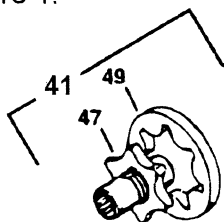

Figure 1
1. Clamp the end of the drive shaft in a protected jaw vise with the body of the pump up and remove the four capscrews (34) from the pump assembly.
2. Use a plastic mallet and tap the adapter assembly (43) to loosen it, then pull the adapter straight up until it is free.
3. Remove retainer (46), spring (45), and poppet (44) from adapter assembly.
4. Remove gerotor and coupler assembly (41) from backplate (33). Further disassembly of gerotor and coupler assembly is not required. See Figure 1.
5. Use screwdriver slots in housing and pry up on backplate (33) or tap with plastic mallet to loosen, then pull the backplate straight up to remove. Remove gasket (31).
6. Remove plug assembly (35), spring (37), and relief valve assembly (38).
7. Remove retaining ring (1) from housing. Press shaft (8) from housing (9) and remove shaft seal (2), and washer (3).
8. Remove retaining ring (4) from shaft and remove thrust washer (5) and thrust bearing (6).
9. To remove the camplate (19) from housing, remove the four screws (17) from the sides of the housing. Remove tow covers (15 or 16A), o-ring cover (16), o-ring (12), seal (14), washer (13). Now remove the inner race (11) and needle bearings (10). The two camplate pivot bearings are a loose fit into the housing; do not be concerned if they are not tight.